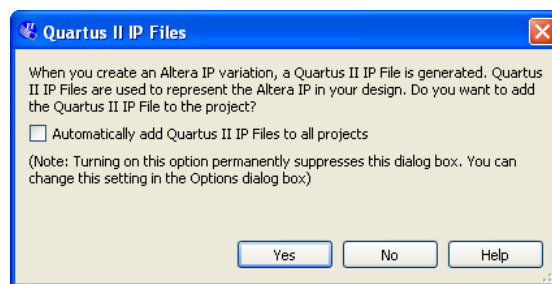
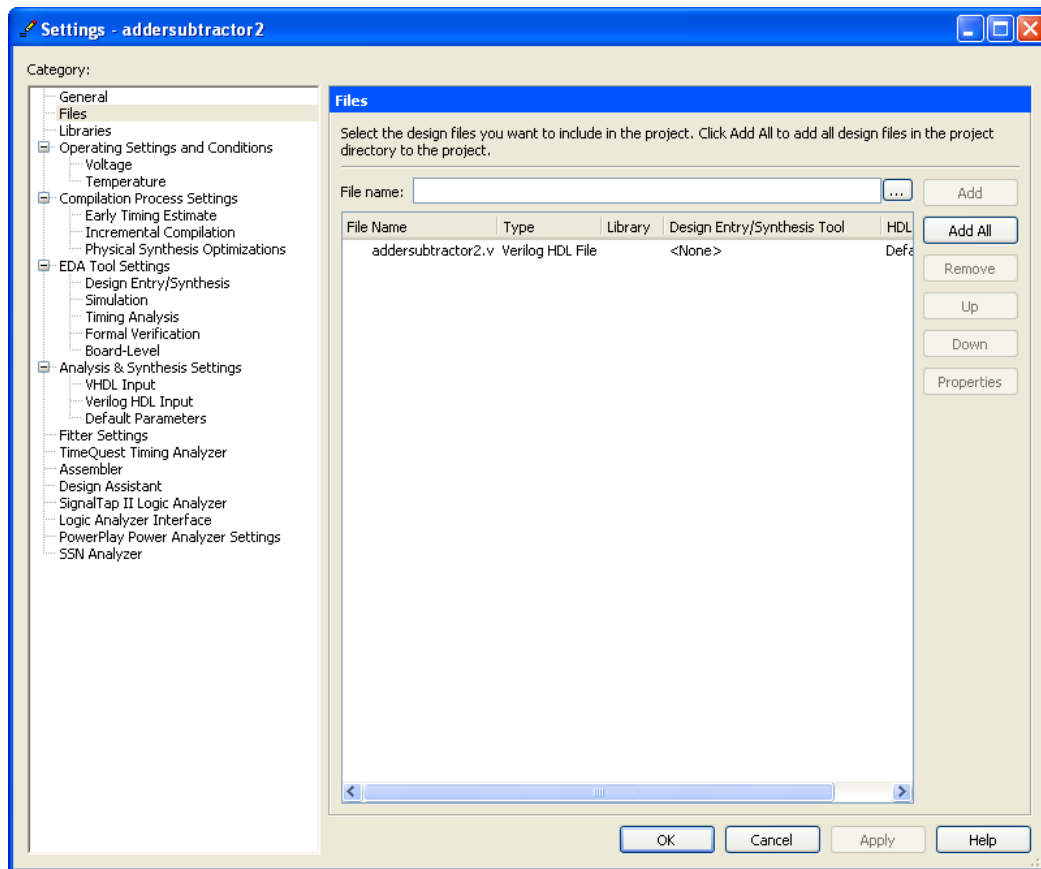

Figure 12. Add the new files to the project.
Figure 15. Inclusion of the new file in the project.
- The box in Figure 12 may pop up. If it does, press **Yes** to add the newly generated files to the project.
If the *megaddsub.v* file has not been included in the project (e.g. if you answered **No** in the box in Figure 12, or possibly if the box did not show up at all), you need to include it manually. To include the *megaddsub.v* file in the project, select **Project > Add/Remove Files in Project** to reach the window in Figure 15. The file *addersubtractor2.v* should already be listed as being included in the project. Browse for the other files by clicking the button **File name: ...** to reach the window in Figure 16. Select the file *megaddsub.v* and click **Open**, which returns to the window in Figure 15. Click **Add** to include the file and then click **OK**. Now, the modified design can be compiled and simulated in the usual way.